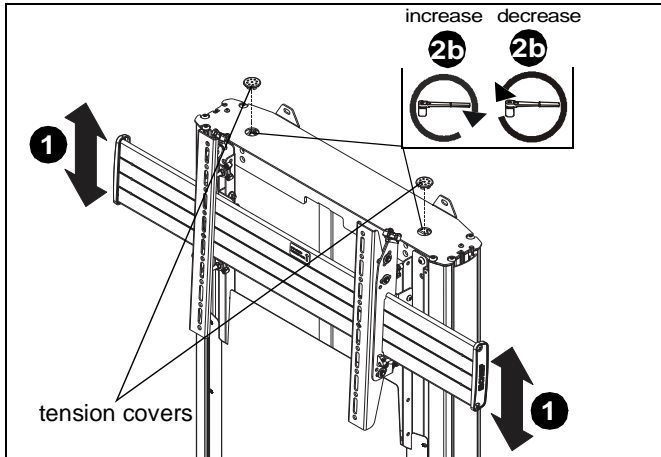

Figure 20
1. Height may be adjusted up or down by manually adjusting height of head assembly. (See Figure 20)
- a. Remove two tension covers. (See Figure 20)
- b. Use 1/2" deep socket wrench to increase or decrease tension. Turn screw clockwise to increase tension and counterclockwise to decrease tension. (See Figure 20)